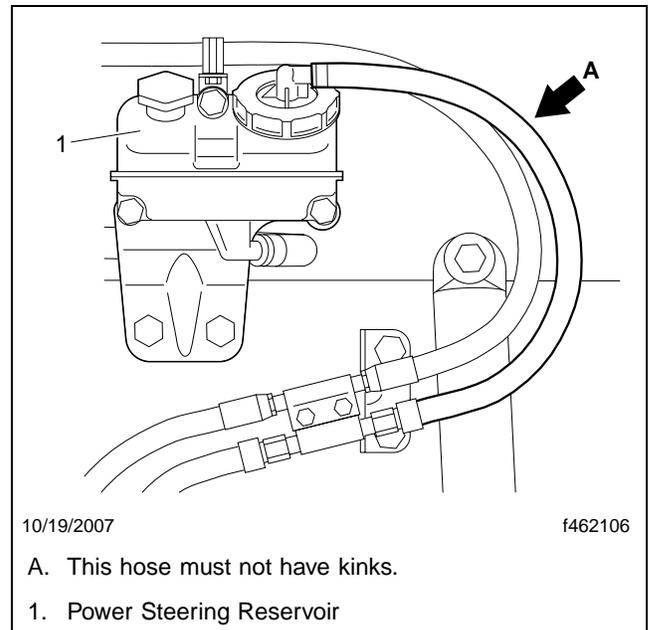

Fig. 6, Hose Routing From Power Steering Reservoir
36. Connect the return hose between the reservoir and formed line. The hose should have no necking or kinks that may impede the return fluid flow. See **Fig. 6**.